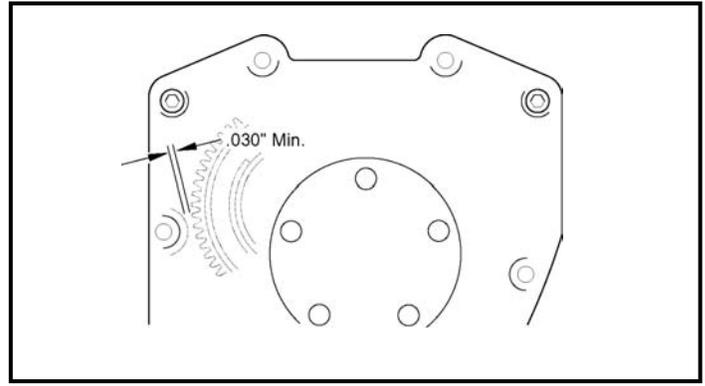

Figure 5
- N. Press a small piece of clay or kneadable putty on cam cover mounting boss shown. See Figure 5. Carefully hold cover and cover gasket in position against crankcase. Install mounting bolts (4) near corners of cover finger tight. Push or tap cam cover towards front of engine.